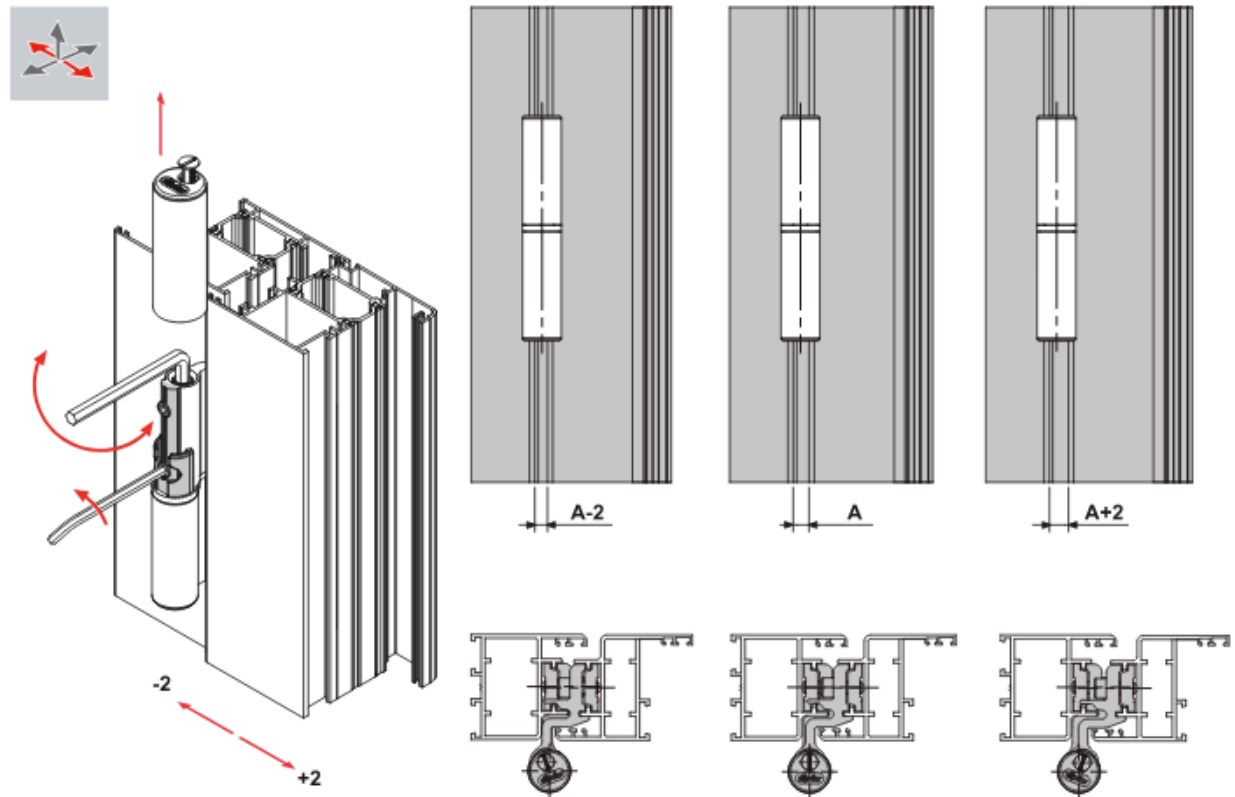

Figure 31
- Using a 6mm hex wrench adjust the door leaf laterally as shown in Figure 31, and re-tighten the front facing set screws. There should be an even 9/16" gap around the perimeter of the door leaf at the head and jambs.